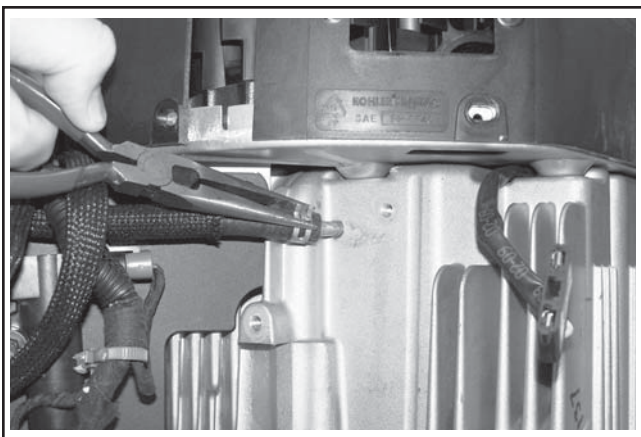

Figure 10-74. Install Pulse Line.
1. Install the lift fuel pump and lines as an assembly. Connect the pulse line to the crankcase vacuum fitting. See Figures 10-74 and 10-75.